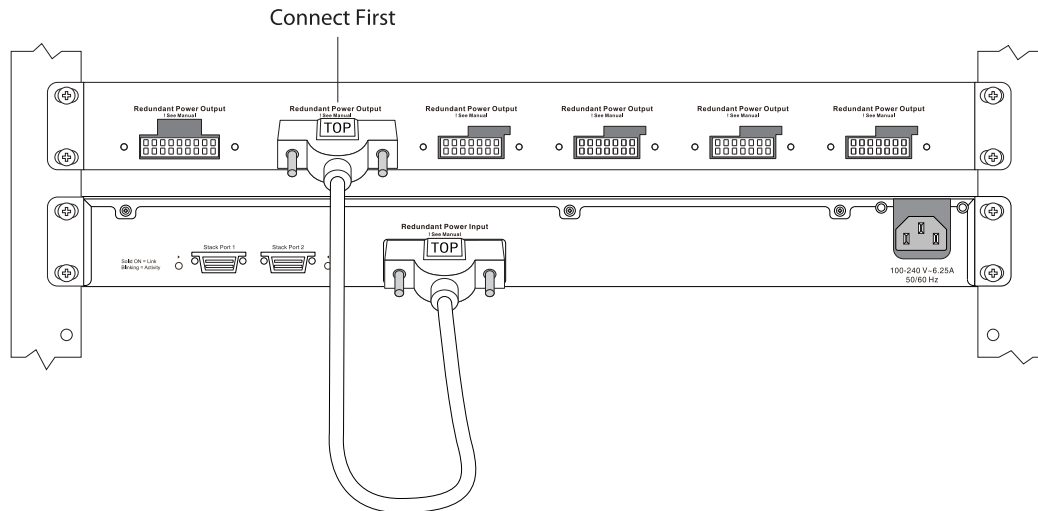

Figure 326: Installing the Redundant Power Cord
- 2 Connect the keyed end (for the 2x7 connector cable, the end with the tab offset from the edge of the connector pins) of the redundant power cord to the EPS-C2 chassis (see Figure 326: Installing the Redundant Power Cord on page 351).
- 4 Connect the other end of the redundant power cable (for the 2x7 connector cable, the end with the key flush with the edge of the connector pins) to the Summit switch (see Figure 326: Installing the Redundant Power Cord on page 351).